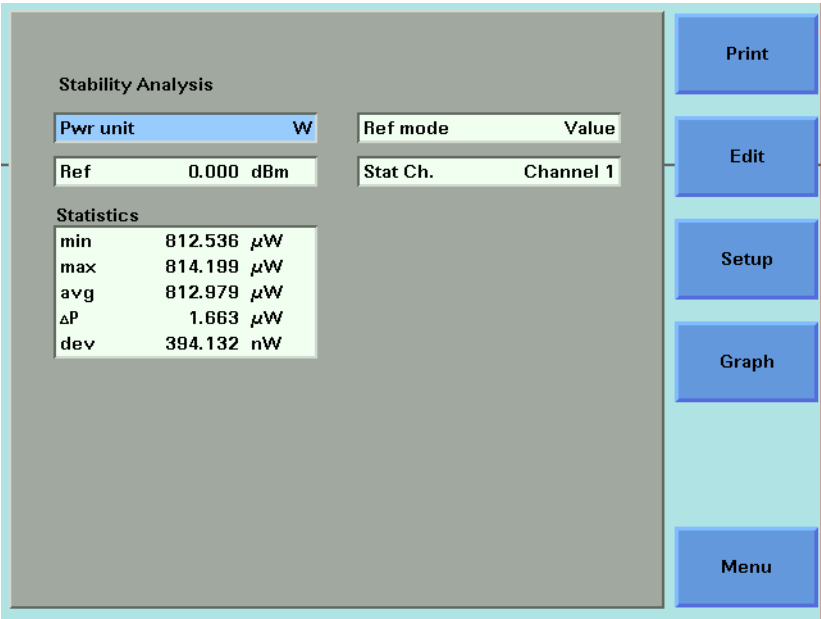

Figure 175 The Keysight 8164A/B Stability Analysis Screen
- 21 Press [Analysis]. The Stability Analysis screen appears as shown in Figure 175 on page -283 for the Keysight 8164A/B and Figure 175 on page -283for the Keysight 8163B.